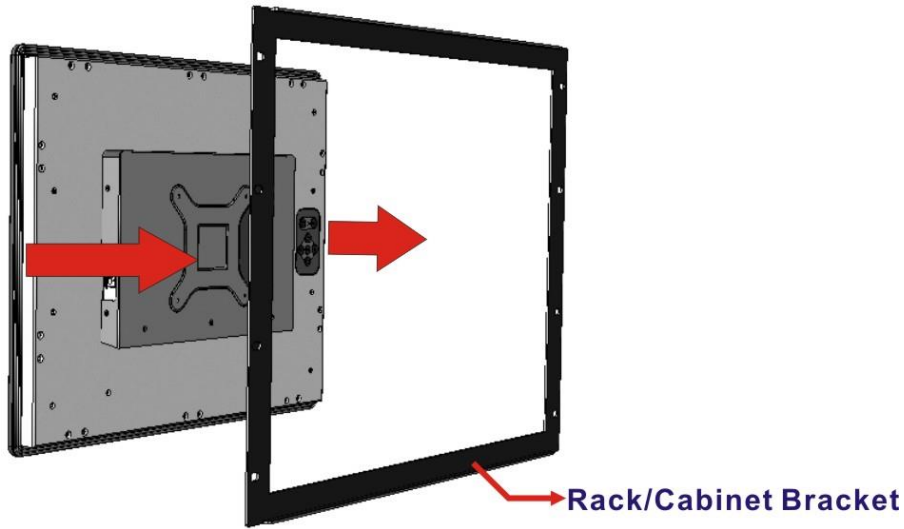

Figure 3-35: Slide DM-F19A into the Rack/Cabinet Bracket
Step 1: Slide the rear of the DM-F series LCD monitor through the rack/cabinet bracket until the aluminum frame is flush against the front of the bracket (**Figure 3-35**).